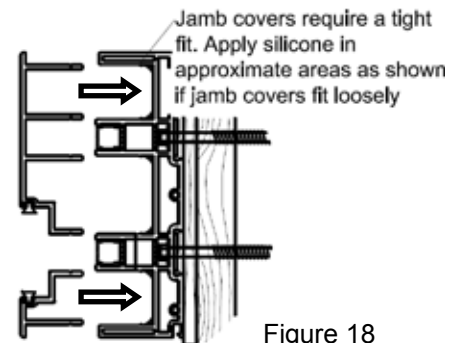

Figure 18
- Jamb covers/Screw Covers: Install Jamb Covers (Items 10-13) until resting flush against jambs. Cut Screw cover (Item 6) to fit in Lock stile track above and below keeper (Figure 18).